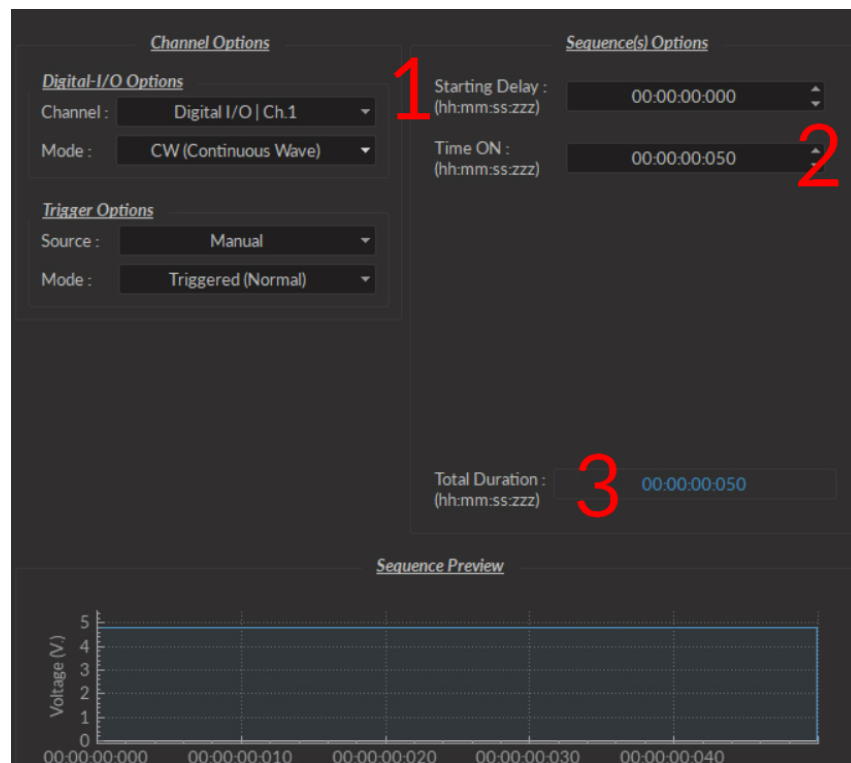

Figure 3.17: Channel(s) configuration window, Digital I/O CW
- The **CW(Continuous Wave)** channel mode (Fig. 3.17) allows the creation of a continuous TTL pulse sequence. The following elements appear in the **Sequence Options** box.